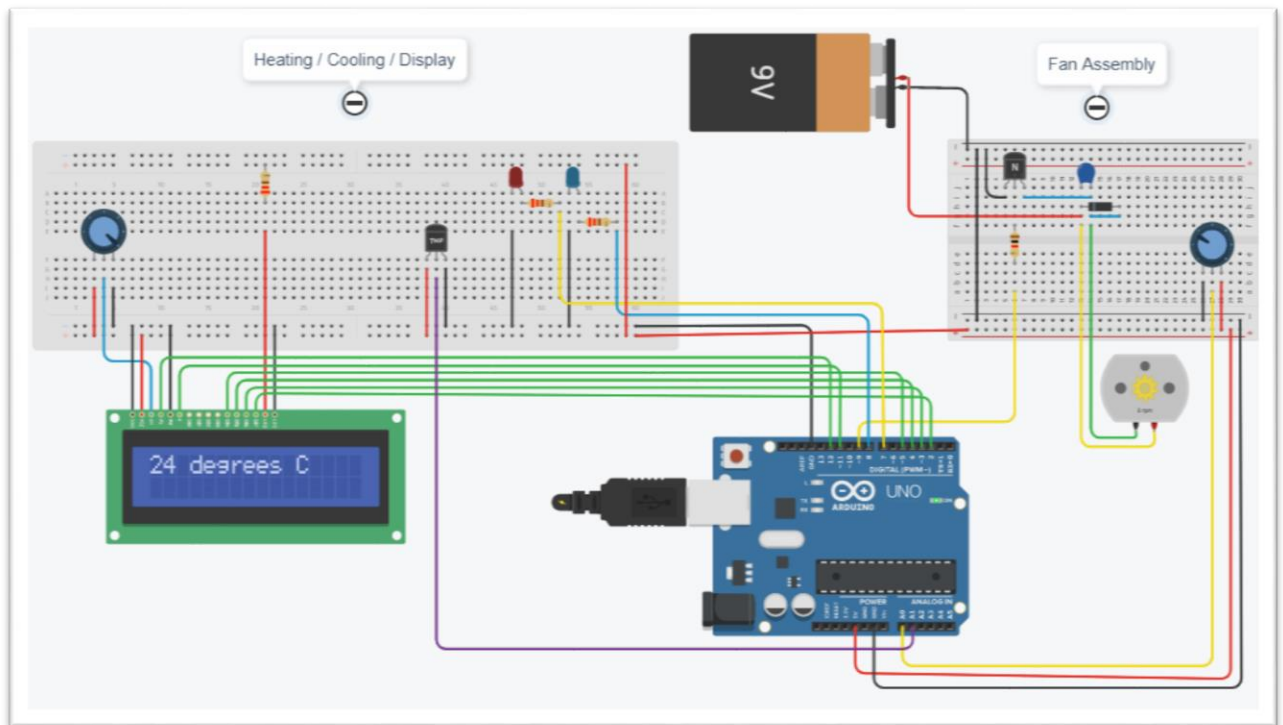

Figure 1 HVAC 370 Automated Environmental Control Circuit
- 2.1.1.2.1. Example (also shown in circuit image below in Figure 1):